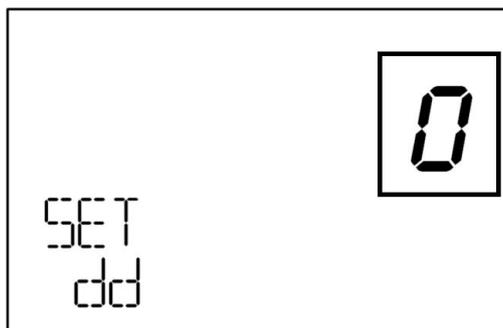

Figure 40
4) In the screen shown in Figure 39, press the left numer key "5/▲" or "8/▼" to adjust the value "2" to "0", as shown in Figure 40 below. The value "0" means the DD width detection function is off.